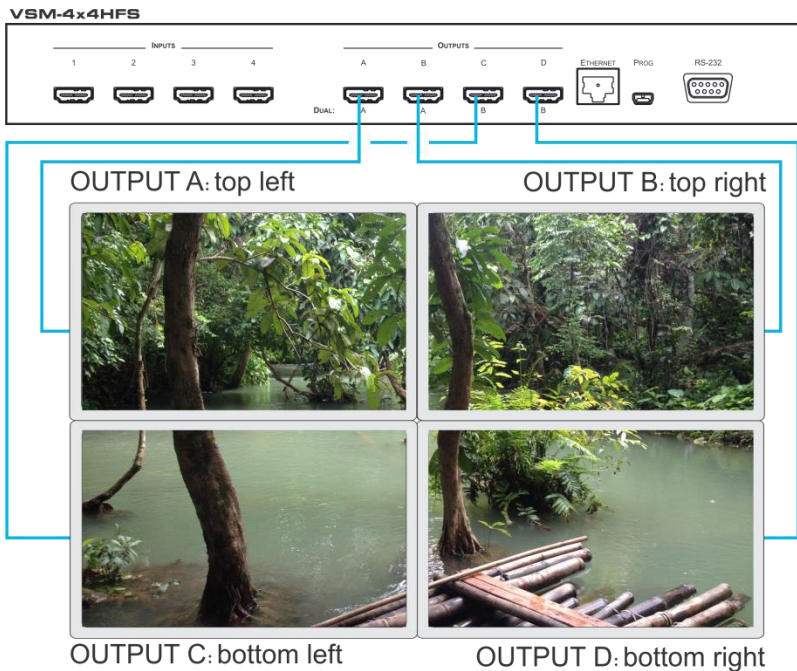

Figure 5: Connecting the VSM-4x4HFS in the Video Wall Operation Mode
To connect the video wall as illustrated in Figure 5, do the following:
1. Connect an HDMI source (for example, a Blu-ray disk player) to the INPUT 1 connector (you can connect up to four input connectors), not shown in Figure 5.
3. Connect the power cord (not shown in Figure 5).